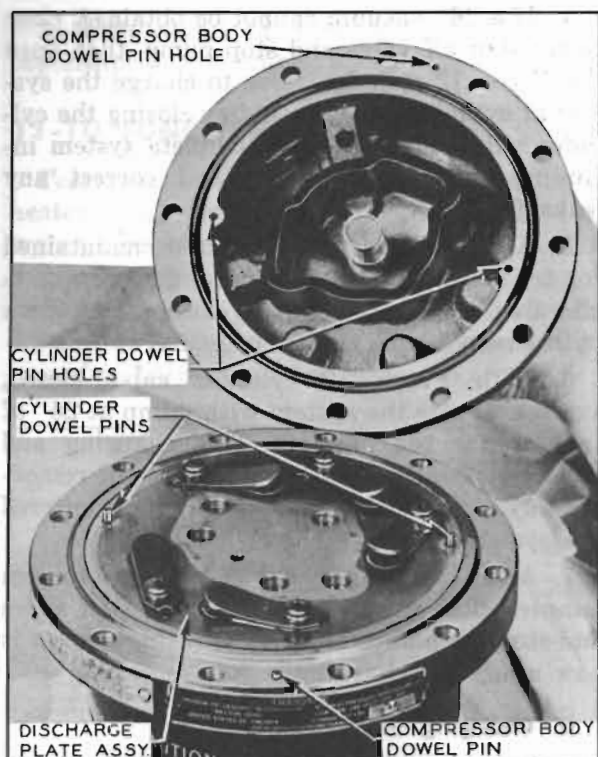

Figure 11-41—Installing Discharge Plate
3. Install discharge plate (thick one) over the two dowel pins shown in figure 11-41.
7. The two cylinder dowel pins mating the head and mounted through the valve plates must be in proper alignment with the third dowel pin in the compressor body. This third dowel pin is located and mounted in the compressor body midway between two threaded screw holes. See figure 11-41.